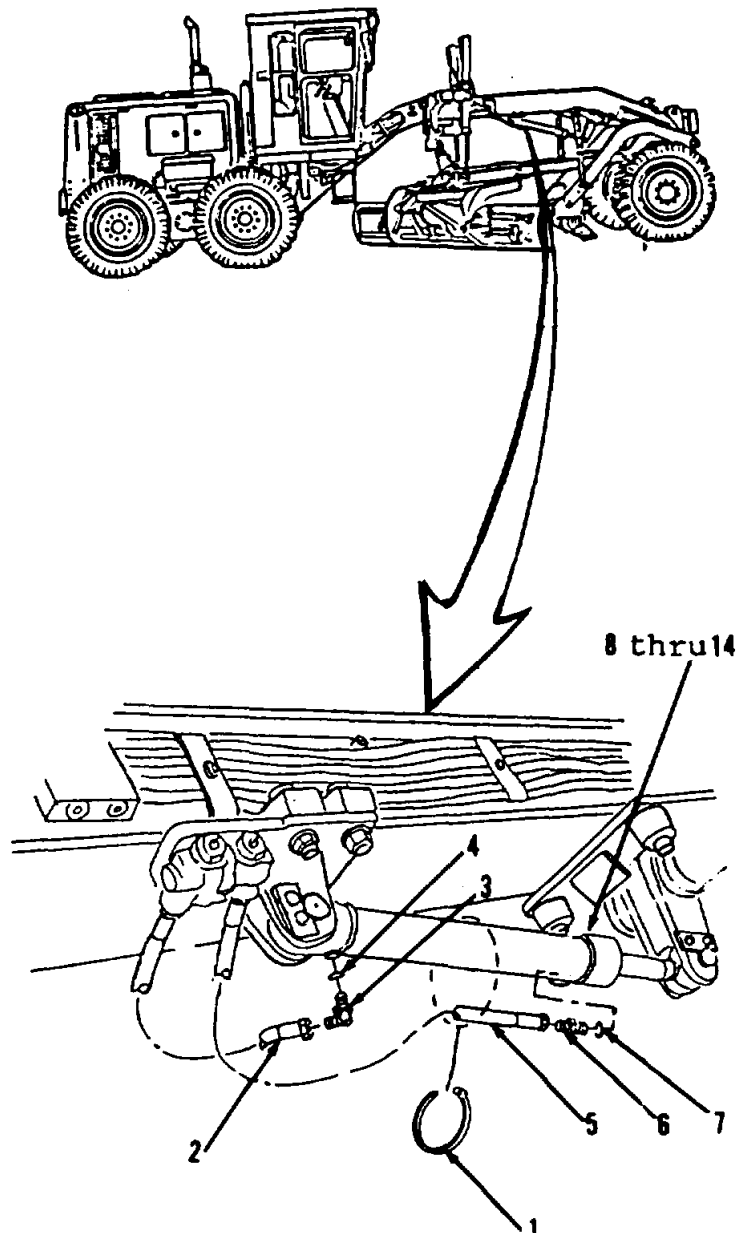

Figure 10-147.
1. Remove and discard tie (1, Figure 10-147) from scarifier cylinder.